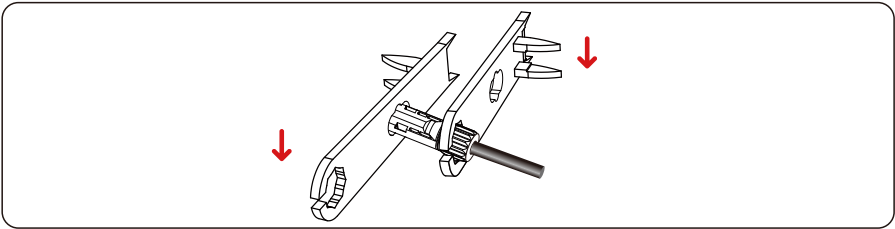

Figure 5.13 Locking connectors
Step 4 Tighten the locking nuts on the positive and negative connectors using a removal wrench (prepared by the customer), as shown in Figure 5.13.